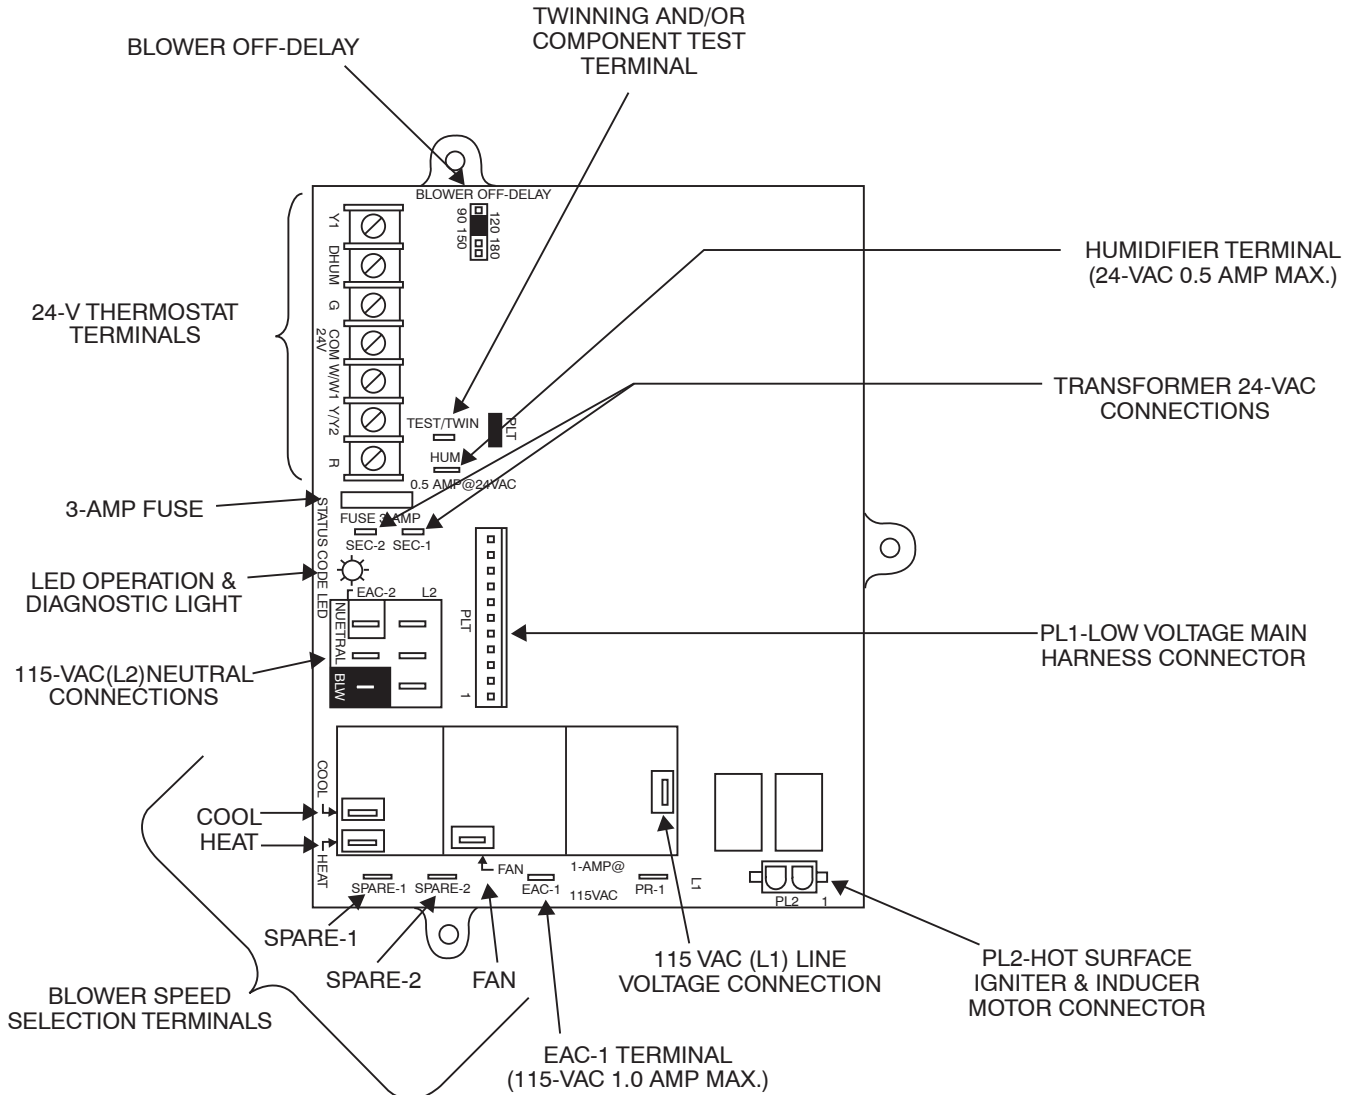

Fig. 39 – Deluxe Single Stage Control
- f. Jumper R and W thermostat connections. (See Fig. 39 or 40.)